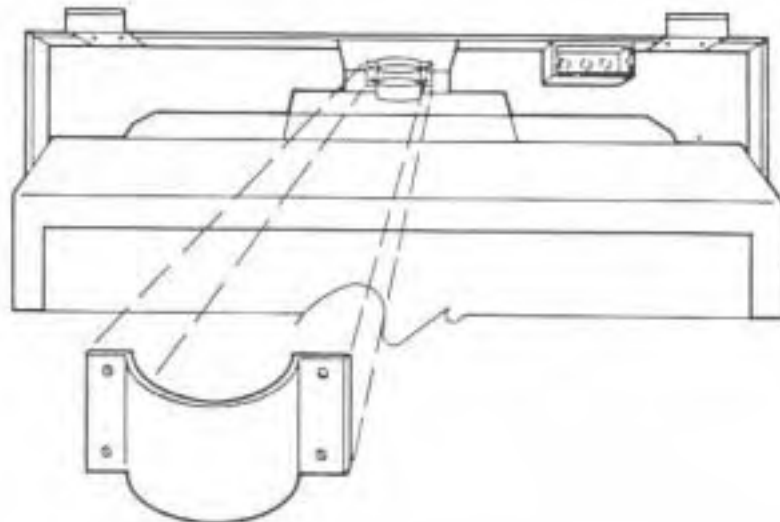

Figure 14
Step 6: Reattach the flue collar clamp, that was previously set aside, to the rear flue collar clamp with the four (4) #10 -24 x $\frac{3}{4}$ " machine screws. The flue collar on the fireplace must be centered in the clamp to effect a gas tight connection. (Figure 14).